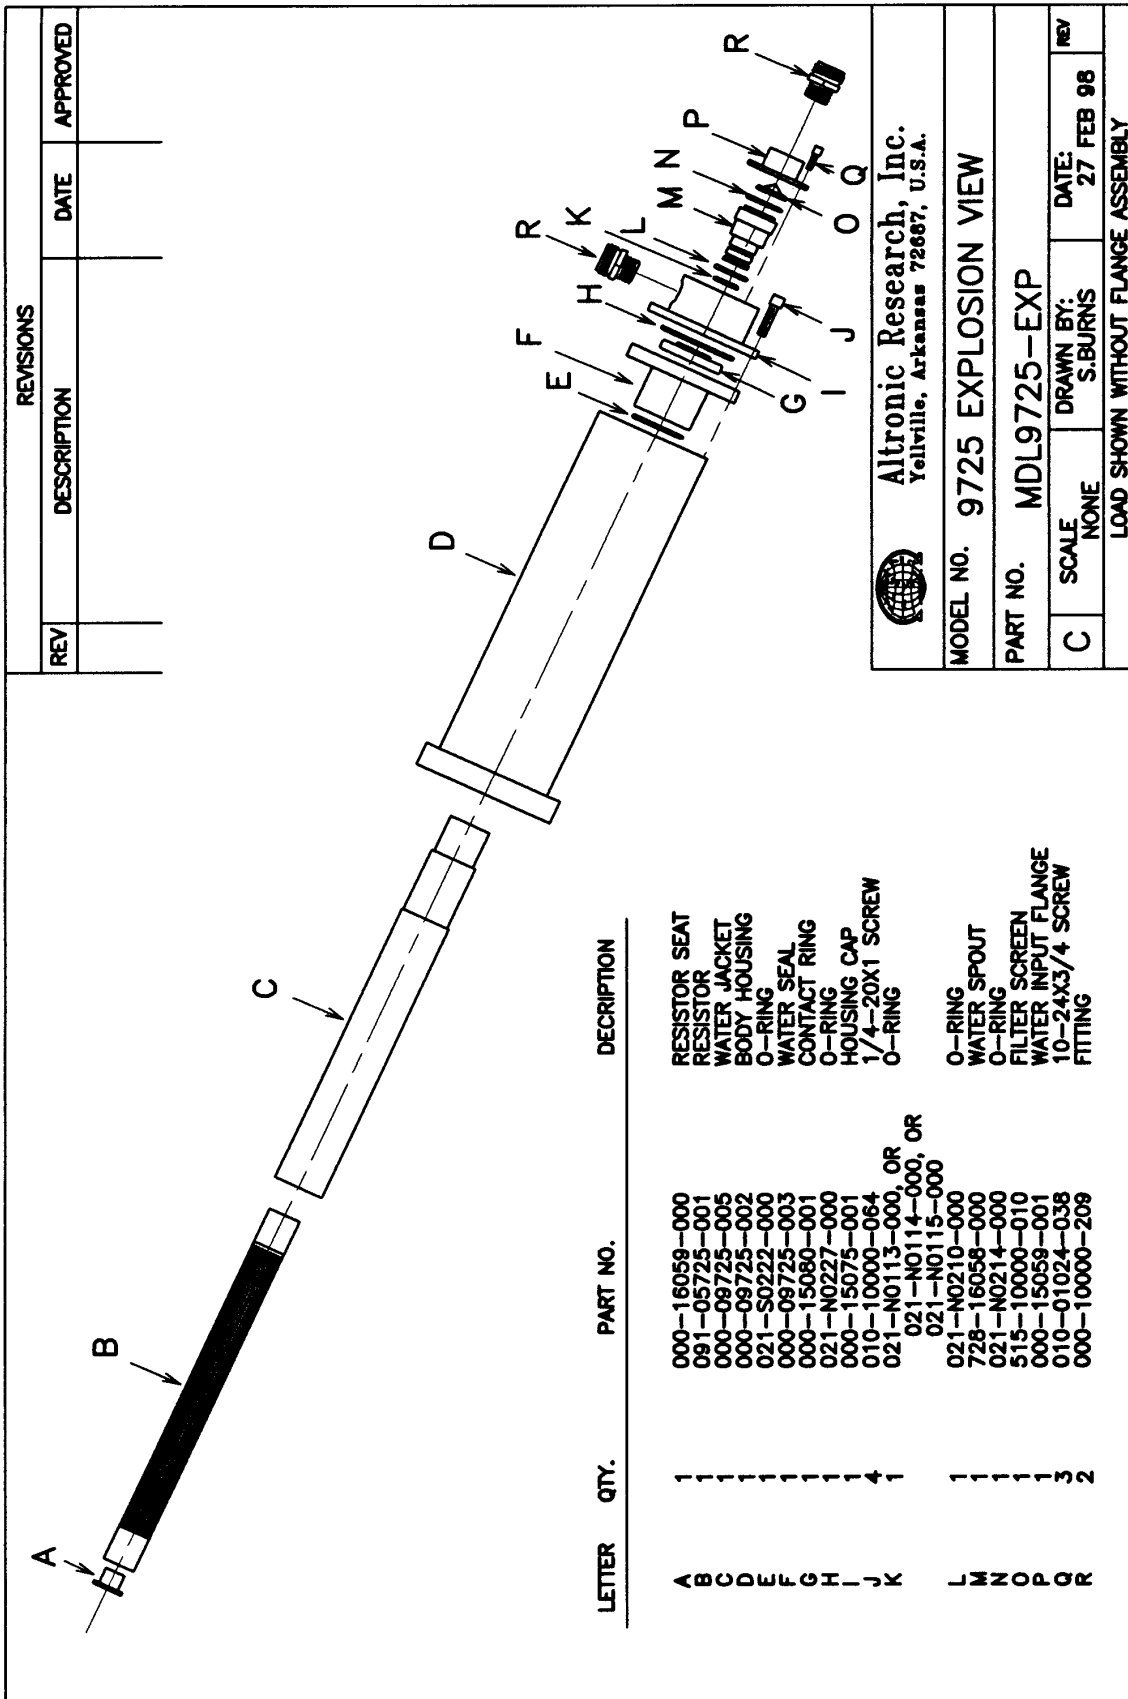
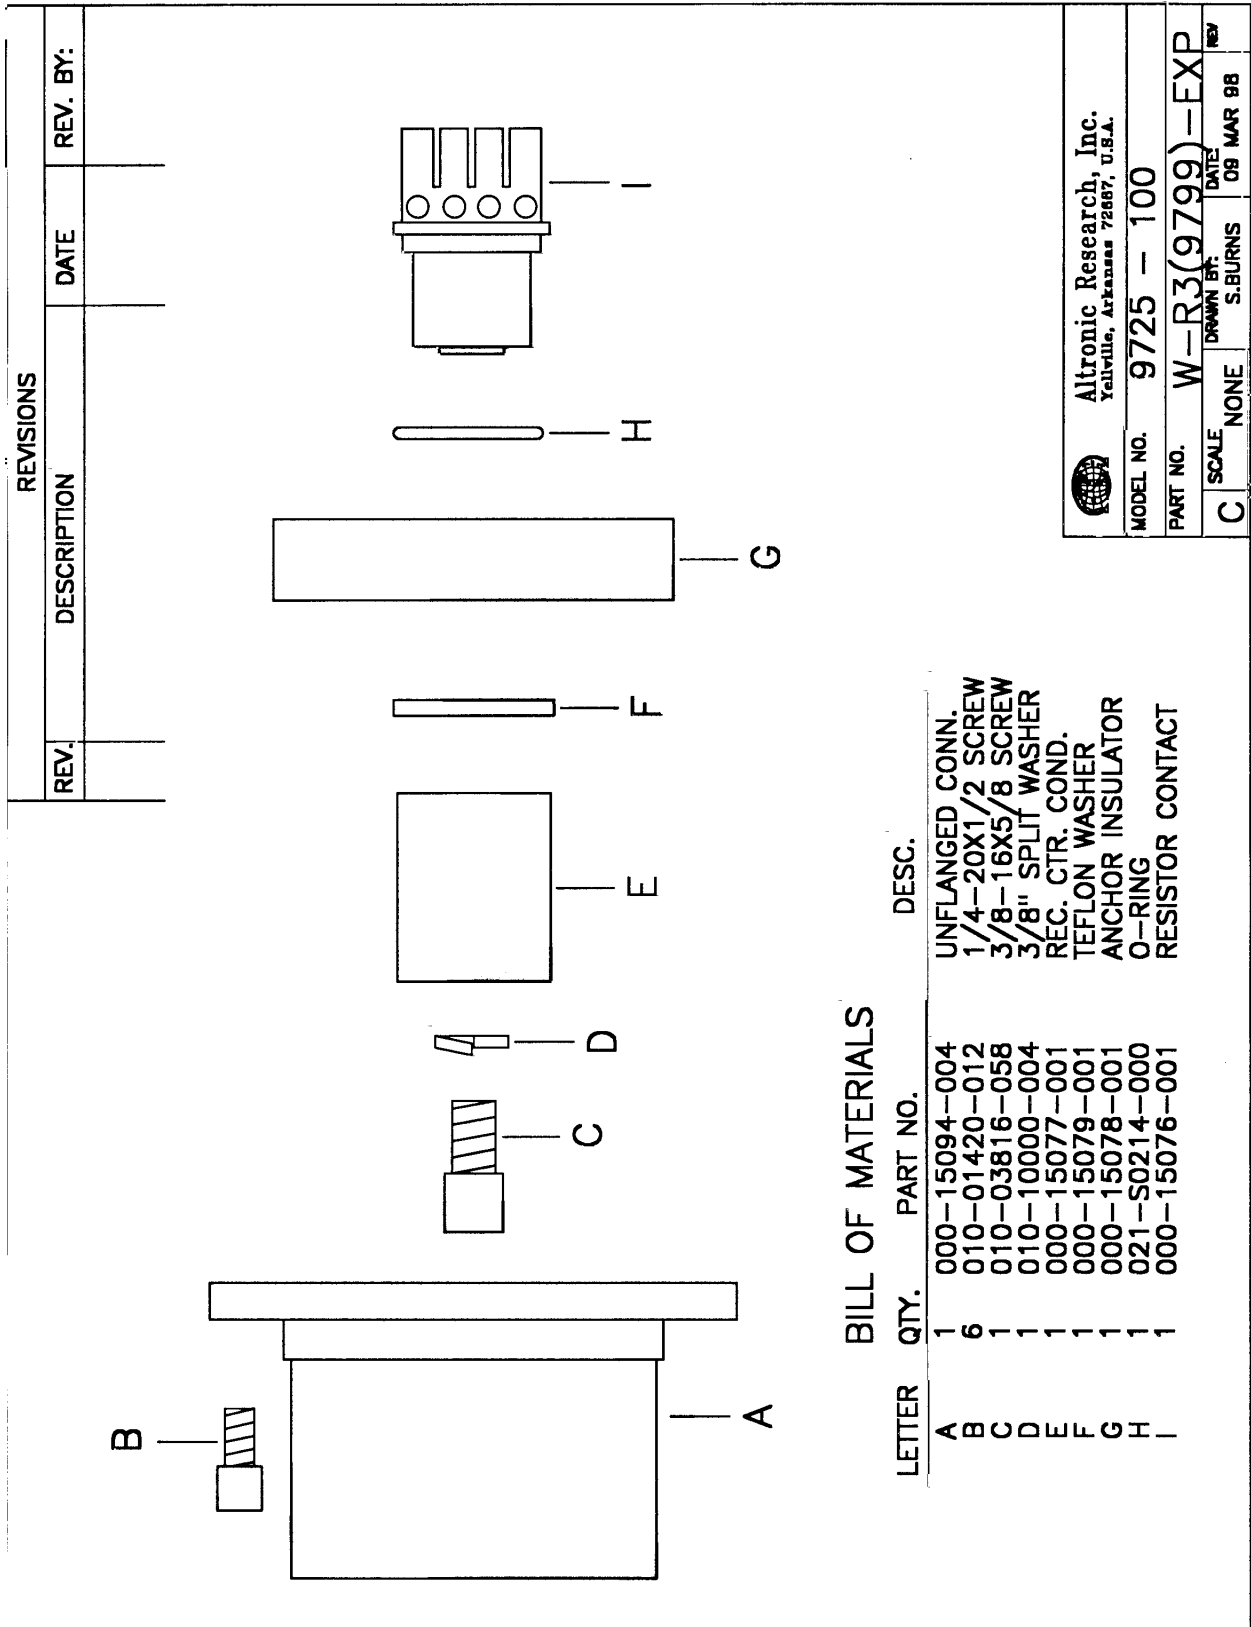

Fig. 14
Fig. 15
4. **Resistor Replacement** - (Refer to Fig. 14) To replace the resistor element, remove the three 10-24x3/8" cap screws (item Q). Remove water input assembly (items O, P, and R). Inspect filter screen for damage, replace if eroded or torn. Remove four 1/4-20x1" cap screws (item J). Remove housing cap assembly (items G, H, I, R, K, M and N). Inspect all O-rings for distortion or damage. Replace if pinched, cut, burned or no longer round in cross section. Inspect ring contact (item G) for signs of arcing or loss of silver in the area of contact with the resistor contact band. Replace if damage is noted. If
- 5. Removal of RF Input** - (Refer to Fig. 15) To remove the RF input line adaptor flange, remove six 1/4-20x1/2 socket head screws (item B) that secures the line adaptor flange (item A) to the load body housing (item D, Fig. 14). The RF input assembly consisting of the center conductor, anchor insulator and front resistor contact (items C, D, E, F, G, H and I) will normally remain in the load body. Grasp the center conductor (item E) by hand and attempt to pull the input assembly out of the load body using slight side to side motion while pulling. If strong resistance is encountered, it may be necessary to chill the load to allow the anchor insulator to shrink away from the load housing. This can be done by placing the load in a freezer, or packing the load in ice for 20 to 30 minutes. Once the anchor insulator has shrunk away from the load housing, the RF input assembly should be easily removed. At this point of disassembly, all components of the load can be inspected or replaced as needed. Reassembly should be done in the reverse order of sequence.